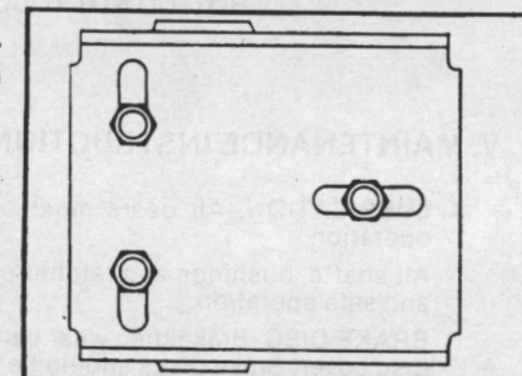

Fig. 2: Mounting Instruction
- B.** The winch should be mounted, using three 3/8" dia. S.A.E. Grade 5 bolts (not supplied). Two bolts should attach the winch to the mounting structure utilizing the outside rear holes or slots. The third bolt should be inserted through the winch frame and mounting structure in a manner to utilize the foremost remaining frame slot (hole) (Fig. 2).